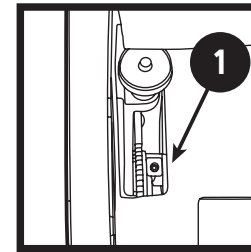

Figure 11
2. Install the rear idler such that its inside bearing surface is approximately 0.06 inches out from the wheel support. Secure the wheel with locking set screw. (Figure 11)